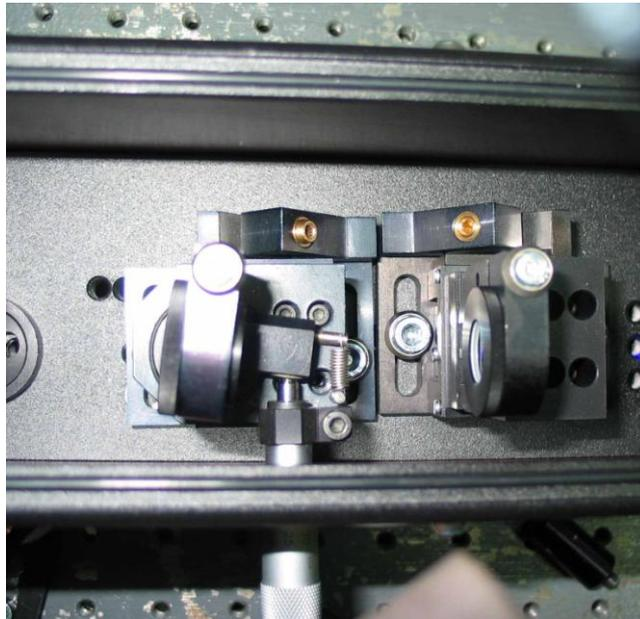

Fig.6. Position of TH holder at 423 nm (SH) (FH - 211.5 nm). Crystal #1.
- 9) **The generator left Del Mar Photonics aligned at the fundamental wavelength $\lambda=423$ nm.** So the crystal №1 ($\lambda= 205-212$ nm) is installed by default. TH holder is rotated about on $(-5) \div (-7)^\circ$ according to the direction of the SH beam (Fig.6).